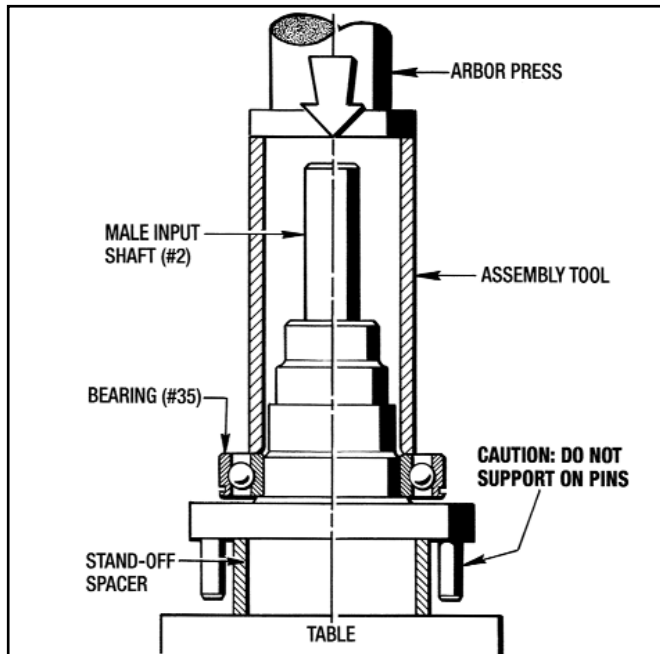

Figure 9.4 - Installing Inboard Bearing (#35) on Male Shaft
1. With an arbor press and the appropriate Assembly Tool, install Inboard Bearing (#35) onto the Input Shaft (#2) as shown in Figure 9.4.